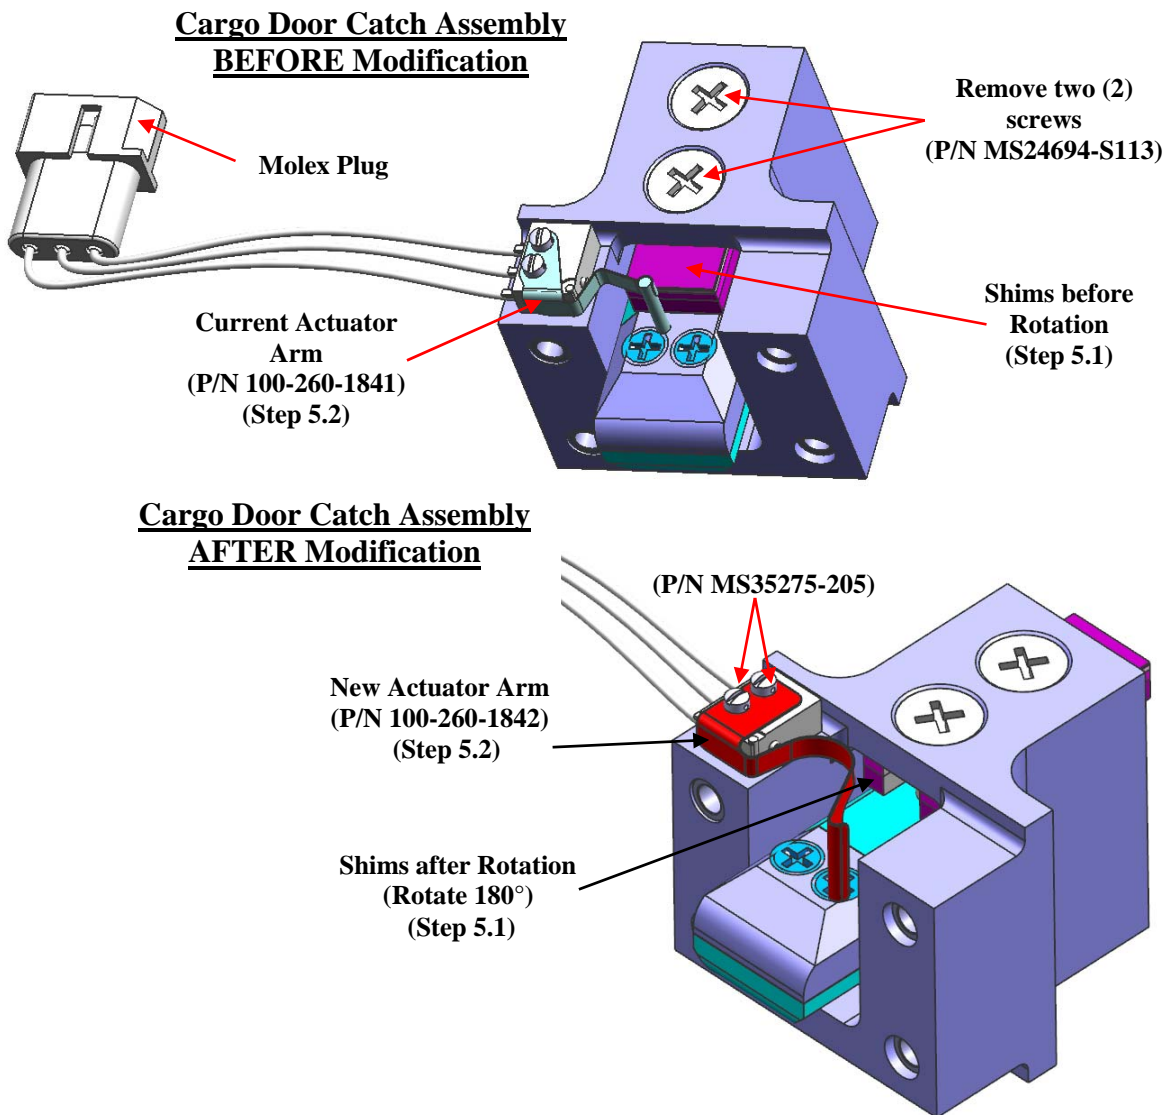

Figure 5-1: Illustration of Cargo Door Catch Assembly Before/After Modification
At Figure 5-1, added part number to read "Remove two (2) screws (P/N MS24694-S113)."
At Figure 5-1, added part number to read "Current Actuator Arm (P/N 100-260-1841)."
At Figure 5-1, added part number to read "New Actuator Arm (P/N 100-260-1842)."
At Figure 5-1, added part number label (P/N MS35275-205) to the figure showing the cargo door catch assembly AFTER Modification.
Reference **Figure 5-1** while performing the following steps on each door catch assembly.
1. Remove the two (2) screws (P/N MS24694-S113) holding the door catch assembly together.
3. Rotate the shims 180° and install as shown in **Figure 5-1**. This will allow clearance for the new actuator arm.
1. Remove the two (2) screws (P/N MS35275-205) attaching the switch actuator arm (P/N 100-260-1841) to the snap action switch (P/N 100-260-1840).
2. Replace the existing actuator arm (P/N 100-260-1841) with the new actuator arm (P/N 100-260-1842) and install the new screws (P/N MS35275-205). Refer to **Figure 5-1**.